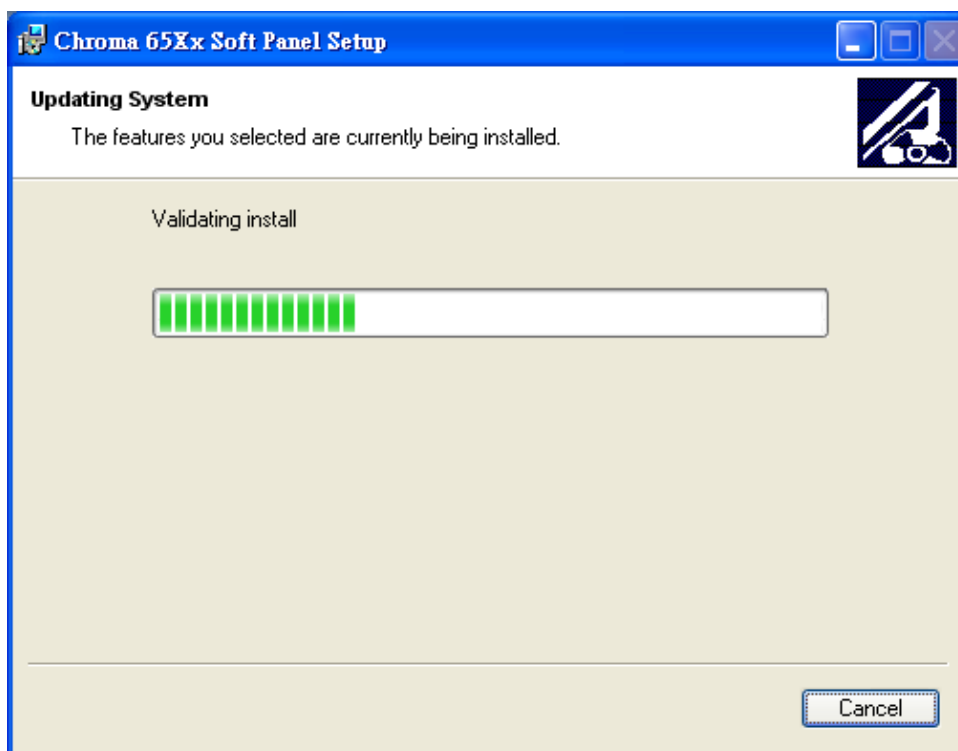

Figure 2-5 Installation Proceeding Screen
- Click **Next** to proceed with the installation as Figure 2-5 shows.